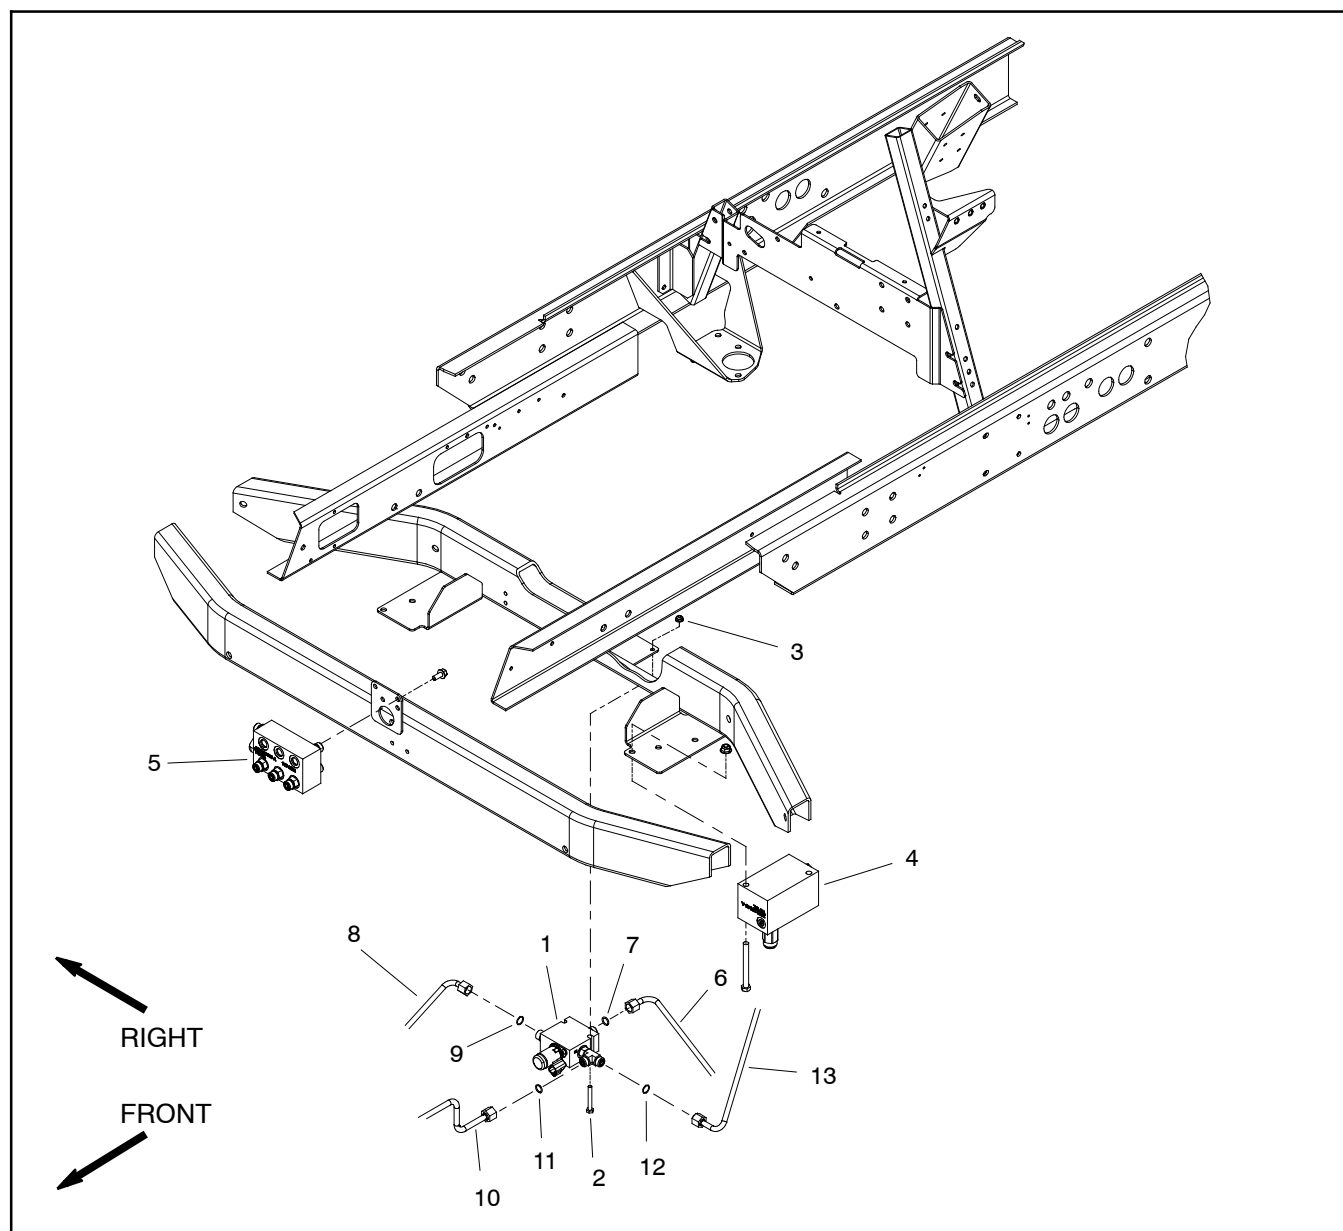

Figure 75
### Removal (Fig. 75)
5. Remove HI/LOW range control manifold from the frame using Figure 75 as guide.
### Installation (Fig. 75)
2. Install HI/LOW range control manifold to the frame using Figure 75 as guide.